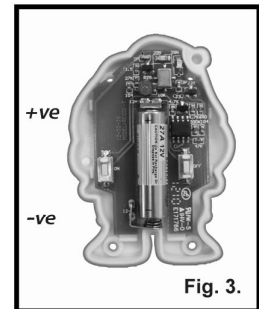

Fig. 3.
2) When the light does not stay on continuously, the Remote unit is required for code learning again. The old code must be cleared first before code learning. Refer to item 5) Code Learning and Note.
- Install a new 12V Alkaline battery (#27A size). Make sure the polarity is correct. See Fig. 3